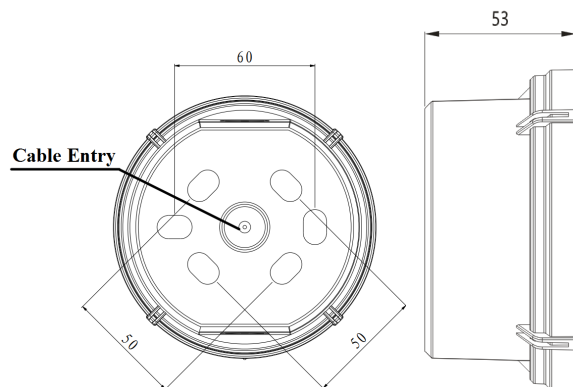

Fig.6 Base For AW-D306H
AW-D306H installation requires the use of supporting base, as shown in Figure 6. the diameter of the fixing hole  $\Phi 5\text{mm}$ , the fixing hole spacing for 50mm ~ 60mm. To install, you will need to tap down the cable entry holes in the base for wiring. Then use self-tapping screws to secure the base.
**(4) Installation and commissioning steps**
- Fix the matching base in the specified position according to the construction drawings using 2 x M4 screws through the mounting fixing holes shown in Figure 6 and should confirm that the base is securely fitted;